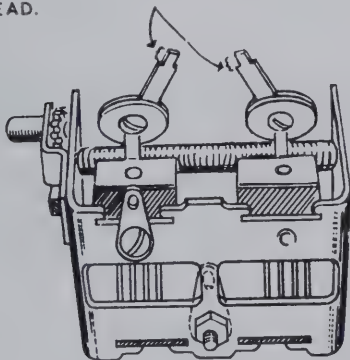

Figure 5
- () Observing Figures 5 and 6, loosen the nut holding the disc condenser on the stator lug near the slide switch so that the condenser is just loose enough to be rotated.
- () Bend pin 1 down against the condenser lead, being careful that the pin socket lug and lead from the disc condenser do not touch the metal part of the tube socket (NS).